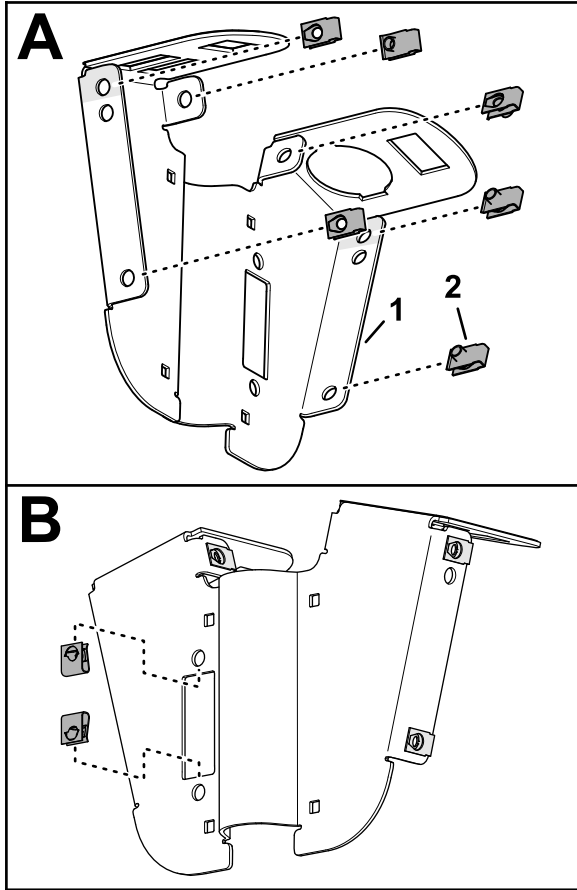

Figure 26
1. Assemble the 8 clip nuts (1/4 inch) to the switch mount as shown in Figure 26.